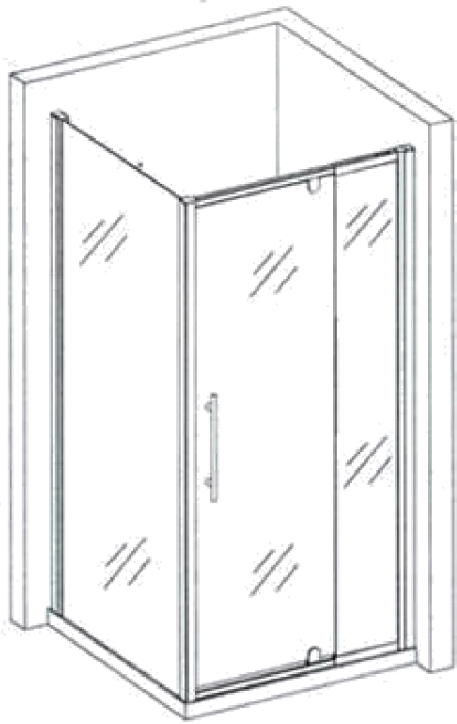

Fig 9
6. Cover the **glass profile cap (1)**, **wall profile cap (2)**, **corner profile cap (3)** and install the **side anti-water strip (19)**. (Fig 9, 10, 11)